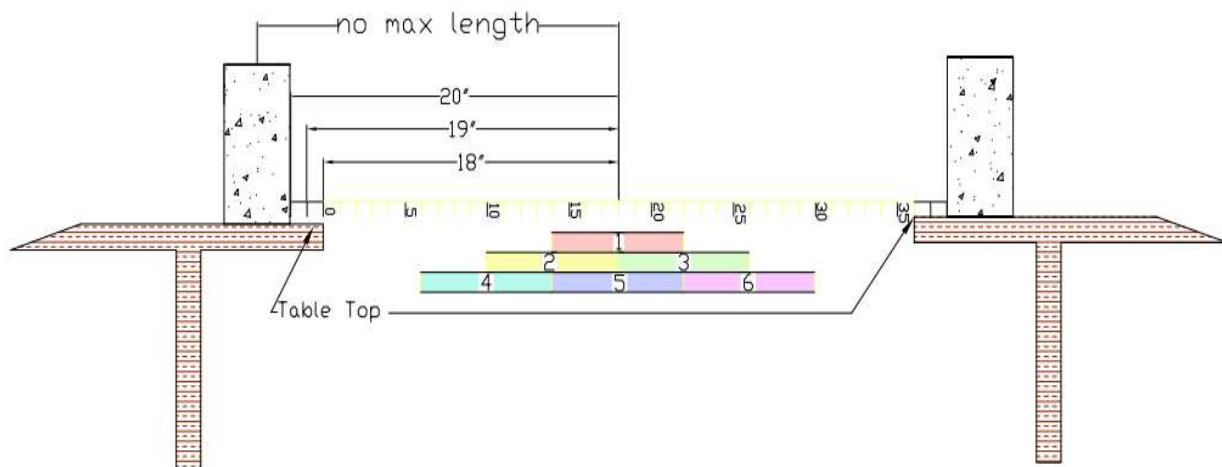

Figure 7: Possible Loading Positions
4. The roadway/loading surface must be provided at all potential wheel support locations (refer to Figure 7). Since the truck that is loaded has “wheels” that are each 2” wide, the roadway shall have enough material to prevent the wheel from falling through. There should not be any obstructions that would prohibit the truck from “driving” across the bridge span.
2. The truck will be placed on the loading surface at a point that will be determined by the roll of a die at the beginning of the competition (see Figure 7). The random point will remain the same for all teams. A load transfer bar will be placed across the top of the truck with chains connected at each end extending downward to connect to a loading platform beneath the structure. Each student will then load their own structure by placing the supplied weights onto the loading platform until failure.
- The loading apparatus (truck + loading platform) must be capable of being supported on the loading surface (roadway) as shown in the diagram. This means that your structure MUST have enough roadway surface for the truck to be placed at one of the six locations along span (see Figure 7), but does not need a continuous surface. The roadway should be reasonably level (some arch is permitted) from one end of the bridge to the other without obstruction. Bridges with roadways that have excessive slope causing the truck to slide off of the bridge will be disqualified.